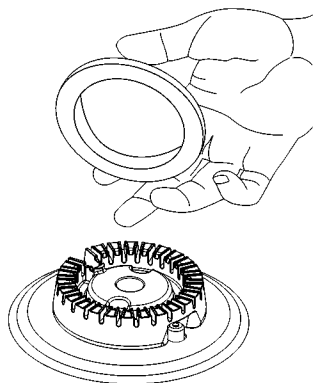

Figure 4: Burner cap and head
- Place a burner cap on each burner head (Figure 4), matching the cap size to the head size. The cap for each burner has an inner locating ring which centers the cap correctly on the burner head. Be sure that all the burner caps and burner heads are correctly placed BEFORE using your appliance.